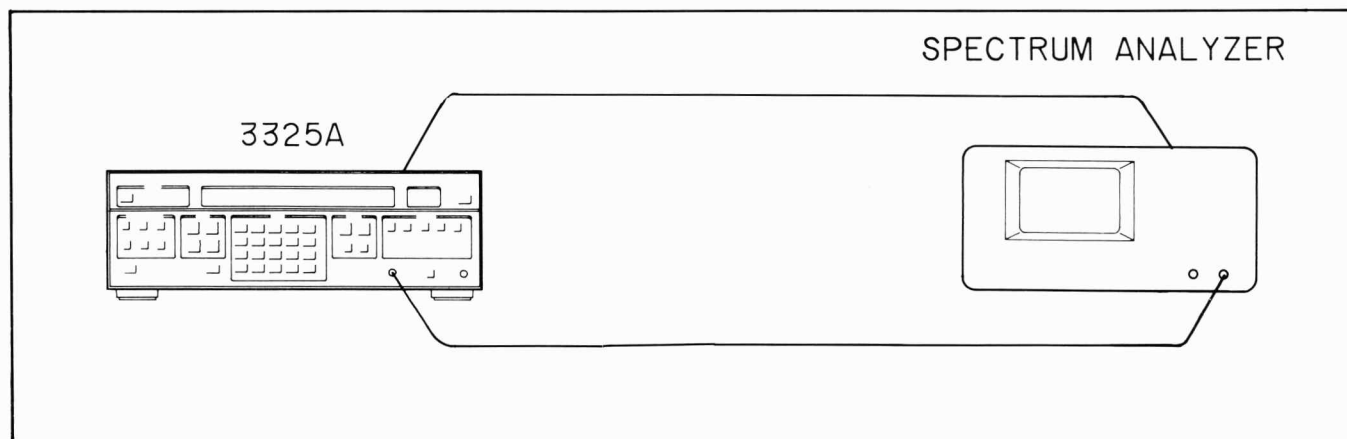

Figure 4-2. Mixer Spurious Test
a. Connect the 3325A signal output to the spectrum analyzer 50 ohm (RF) input and the 3325A EXT REF input to the analyzer's 10MHz reference output. (See Figure 4-2.)